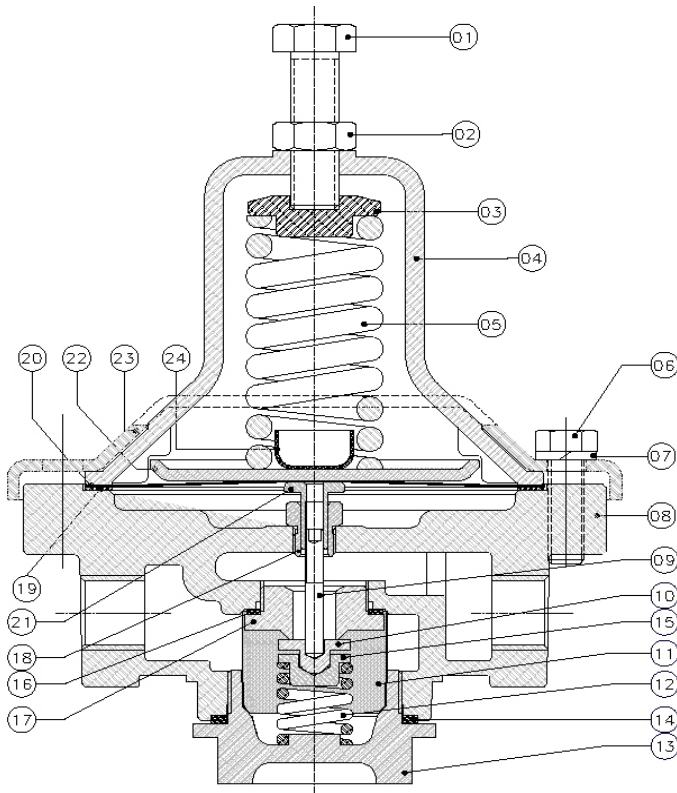

FIG. 2.
- a. Adjusting spring, Fig. 2, may have been tampered with or broken
6. When ordering replacement parts, refer to the parts list (Fig. 2). Order parts by part name, valve size and include the production number from the nameplate.